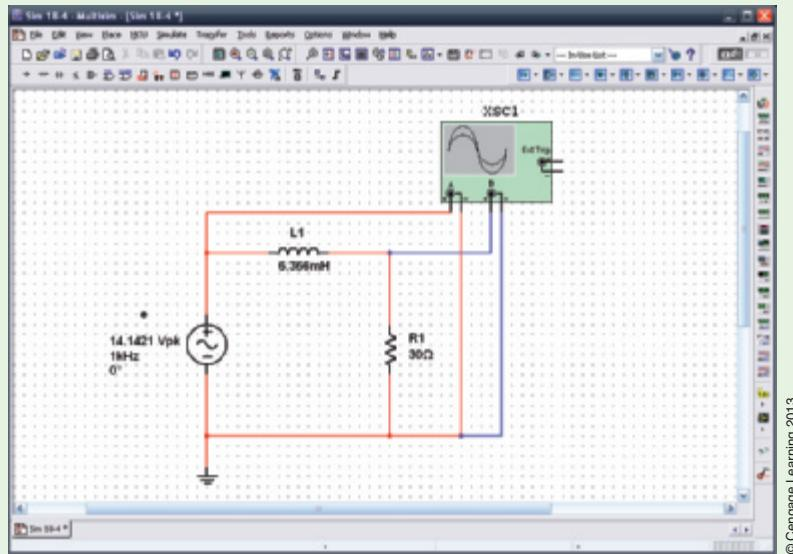

FIGURE 18-70
- Use the schematic editor to input the circuit shown in Figure 18-70.